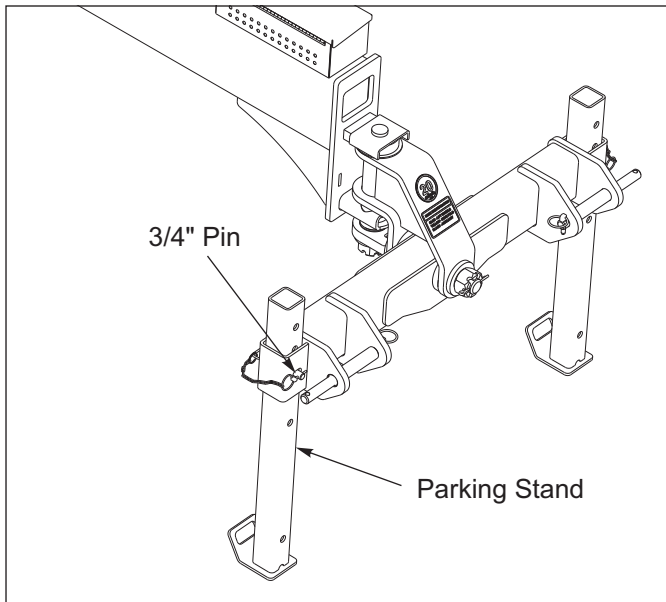

Figure 3-1: Parking Stand
2. Lower the Front Parking Jack Stands and Pin in the parking position. **See Figure 3-1.** If storing on soft ground, place boards or plates under the Jack Stands for a larger foot print.